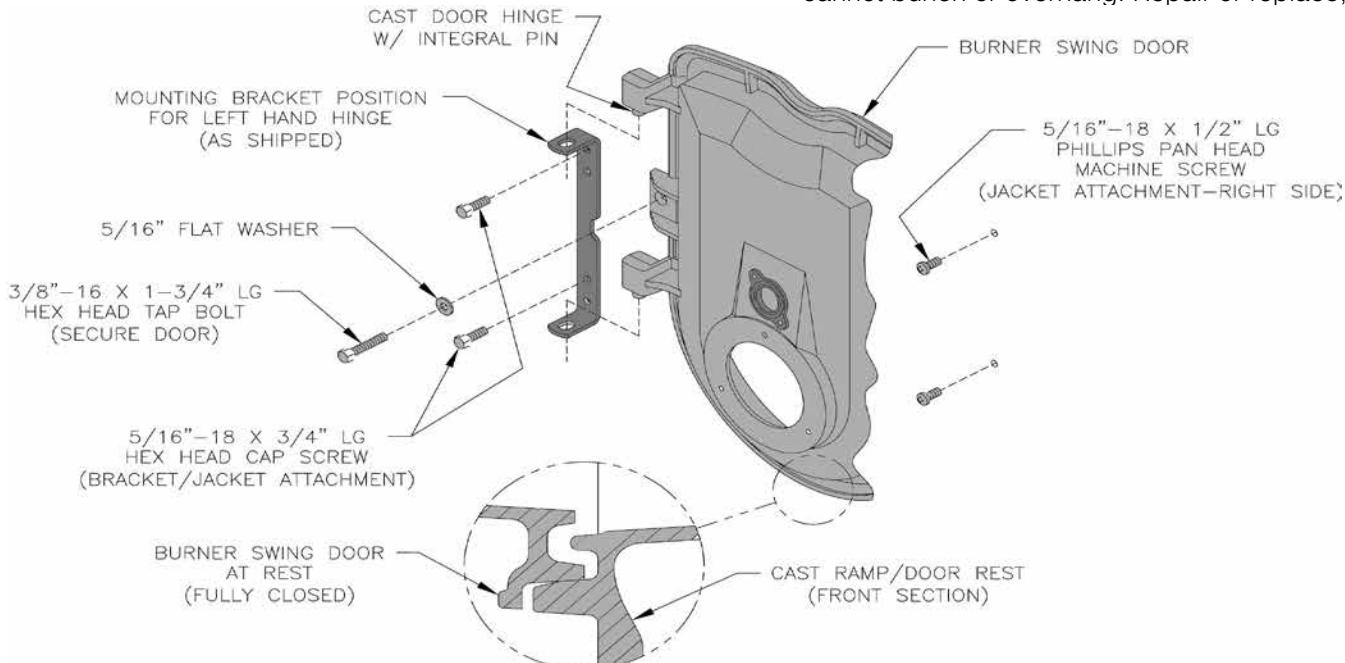

Figure 5A: Partial Front View - Burner Swing Door Mounted to Boiler - Fully Closed and Secured
Throughout this manual you will be instructed to open and close Burner Swing Door for various reasons. There is a proper and improper method of closing and securing the door opened for front jacket panel installation, inspection, cleaning or field service. Refer to Figures 5A, 5B, 5C and paragraphs D "Jacket Front Panel Installation", and, F "Closing/Securing Burner Swing Door" for details.
- b. Lift door upward into the build-in cast ramp door rest (protruding from the bottom of the front section casting – see Figure 5A).